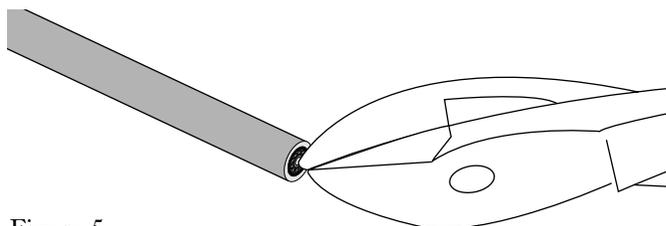

Figure 5
4.4 To ease installation, trim the end of the cable with side cutters to remove any protruding buffered fibers, yarn, or central member (Figure 5).